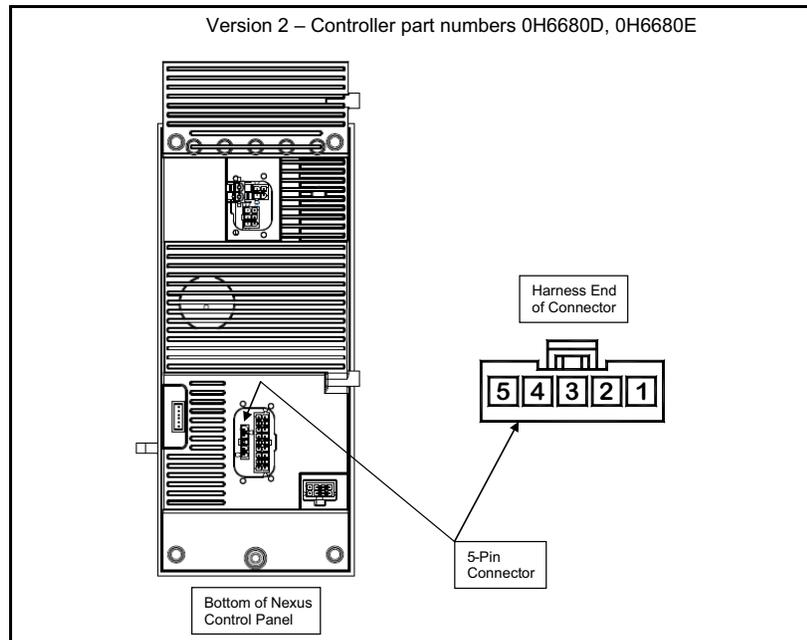

Figure 3. Bottom (underside) of Nexus Controller - Version #2
1. Bottom (underside) of Nexus Controller for Steps 1-3. Unplug the 5-pin connector from the Nexus control panel by carefully releasing the latch on the side of the connector, Figure 3.
3. Install the 5-pin connector back into the connector on the back of the control panel. See Figure 3.